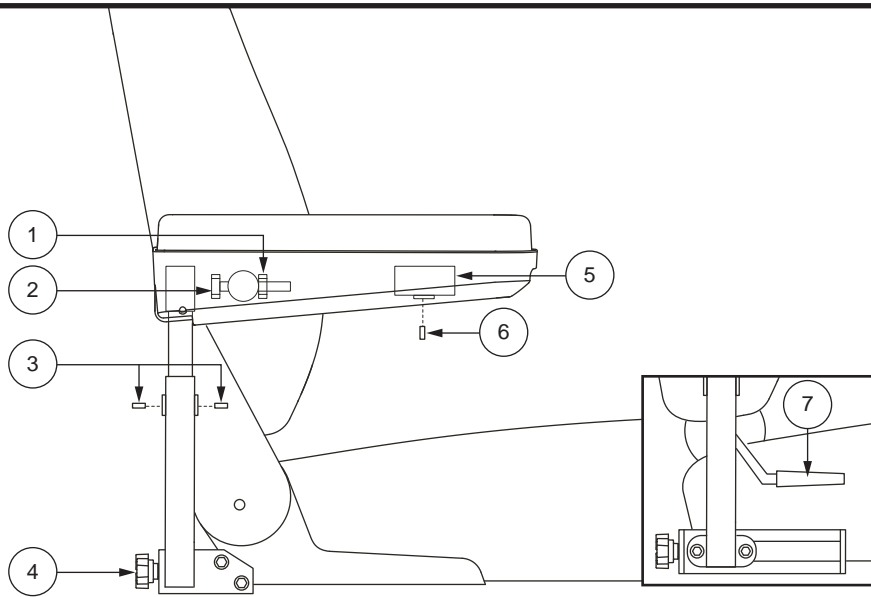

Figure 12. Armrest and Seatback Adjustments
If your power chair is equipped with a manual recline seatback, you can adjust the seatback angle using the seatback release lever. **See figure 12.**
1. Lift the armrest straight up so that it is perpendicular to the floor. **See figure 12.**
1. Loosen the setscrews on the armrest. **See figure 12.**
3. Loosen the setscrew on the controller bracket. **See figure 12.**
5. Loosen the setscrew on the underside of each armrest. **See figure 12.**